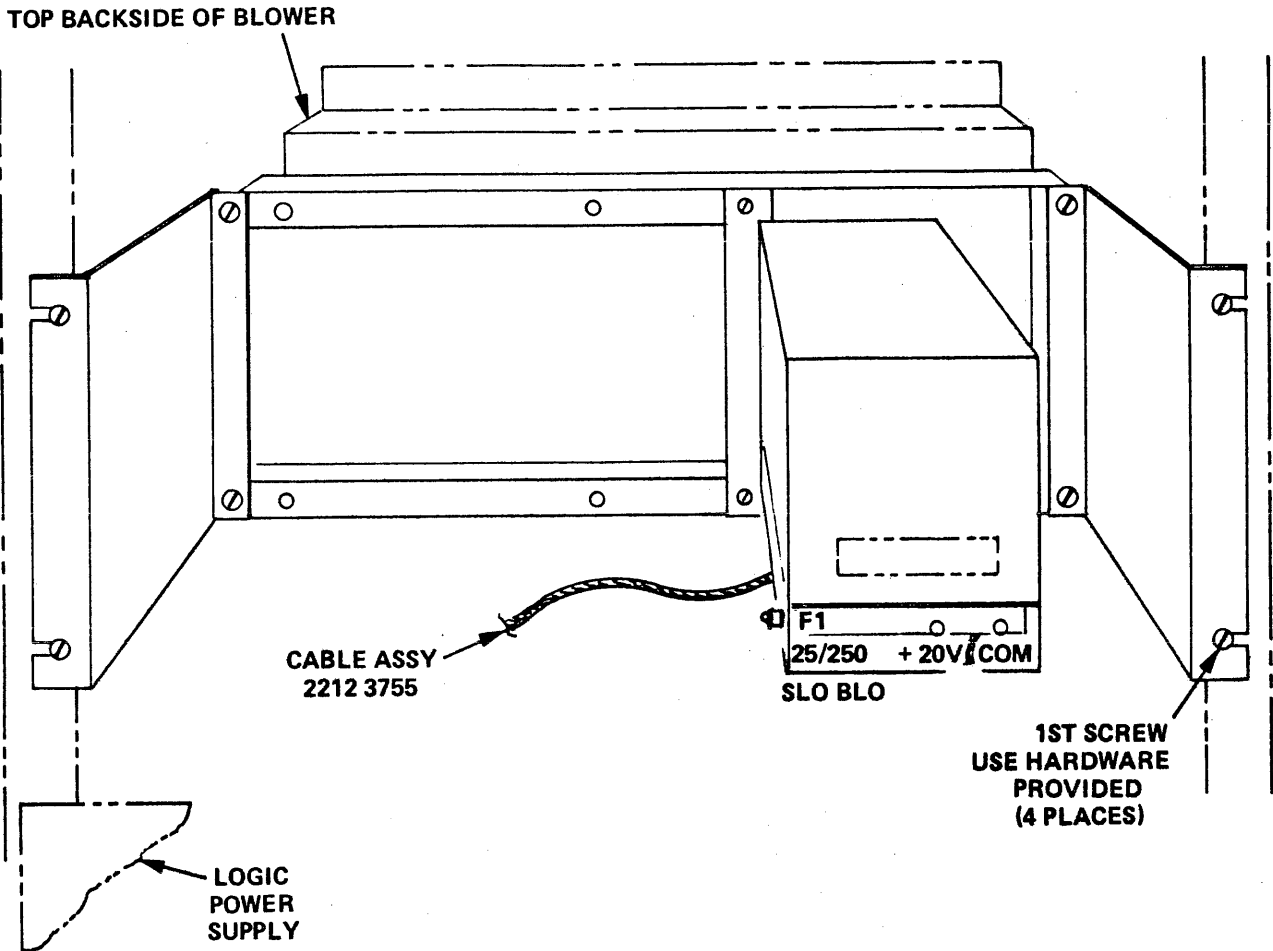

Figure 6-16. + 20 Volt Power Supply Installation
- c. Install the + 20 Volt power supply assembly in the system frame as shown in figure 6-16. The assembly is to be attached to the frame rails above the logic power supply, with the lower mounting screws in the rail holes 19-3/8" from the bottom. Use a # 10-32 x 5/8" screw, a # 10 flat washer and a # 10 lock washer at each mounting hole.